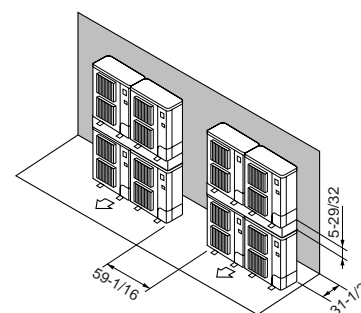

Fig. 2-14
- ⑦ Stacked unit arrangement (Fig. 2-14)